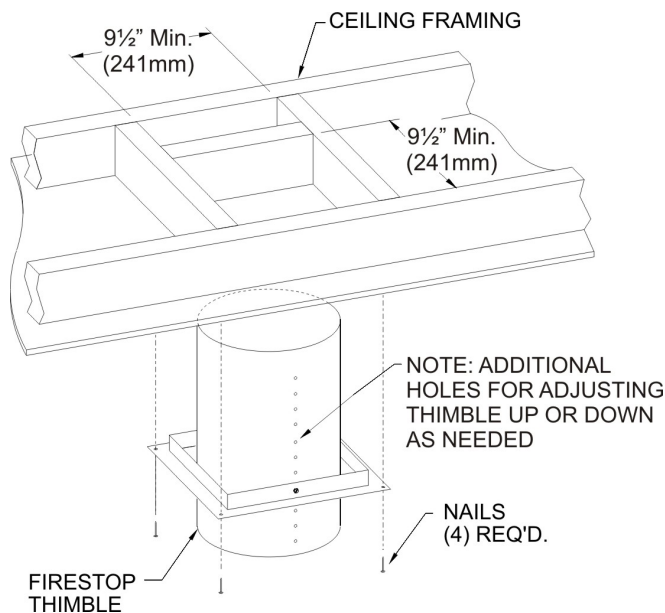

Figure 29
4. Once the fireplace location has been determined, mark the ceiling where the flex vent will pass through. Cut an opening in the installation of the firestop thimble assembly. The opening must measure a minimum of 9-1/2" x 9-1/2" square. **See Figure 29.**